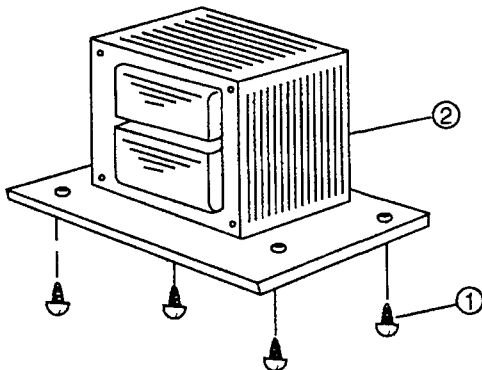

Figure 11
9. To remove transformer. (Figure 11)
- a. Remove four tapping screws ①.
- b. Remove the transformer ②.